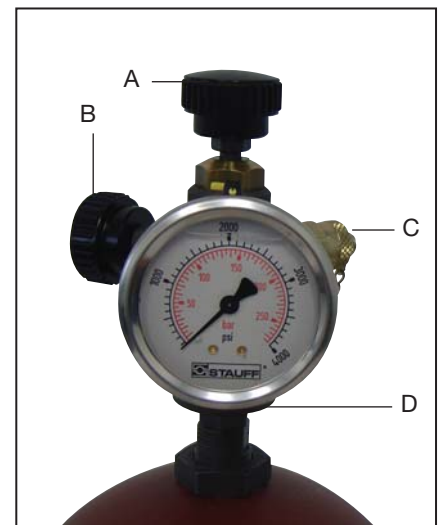

Figure 1.
5. Make sure bleed valve B (Figure 1.) is closed, depress gas valve core by turning valve A (Figure 1.) clockwise. Gas pressure can now be read on gauge.
6. To reduce pressure, open bleed valve B (Figure 1.) carefully, allowing gas to escape until desired pressure is obtained.